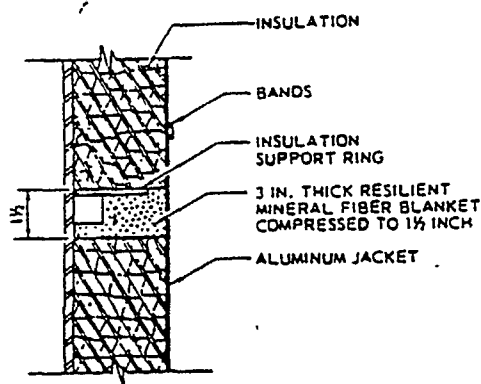

FIGURE 3 - EXPANSION JOINT DETAILS
- 5.14 Vertical vessels having insulation design temperatures above 400°F shall have expansion joints installed below all support rings except at the bottom support. Installation shall be per Figure 3.